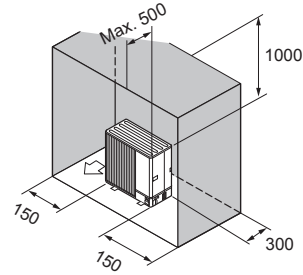

Fig. 1-11
- ⑥ Obstacles at rear, sides, and above only (Fig. 1-11)